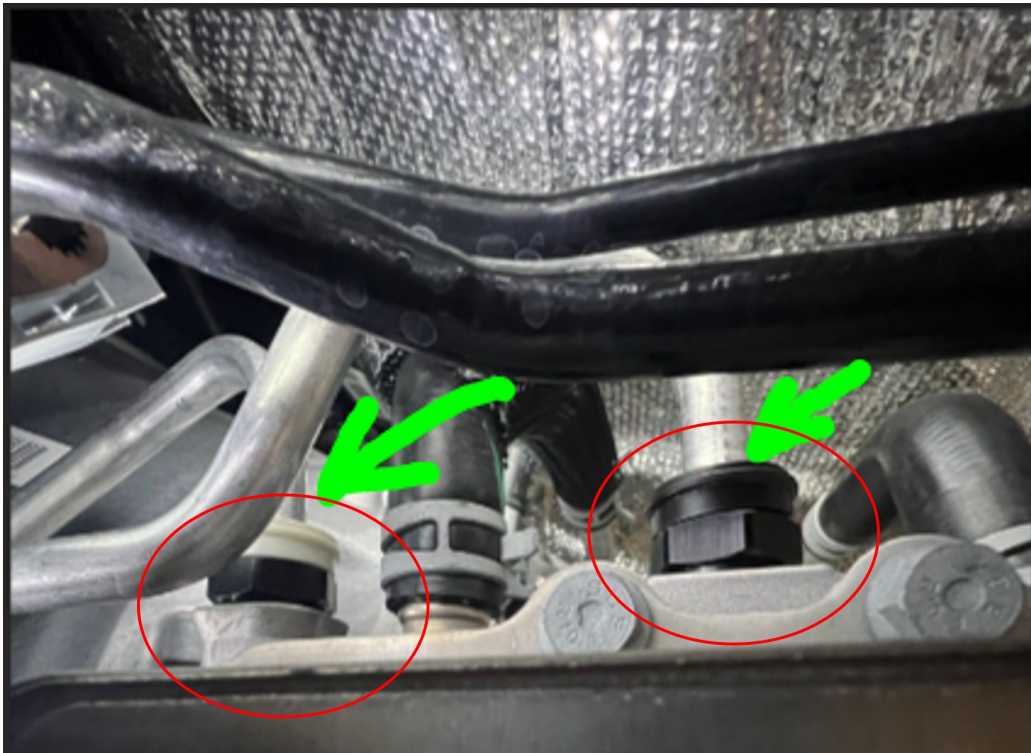

Fig. 1
- YES >>> This bulletin has been completed, use inspect LOP (21-25-10-98) to close the active RSU (Fig. 1).
1. Fully seat the transmission oil cooler lines into the oil cooler and ensure the caps are fully seated into position (Fig. 1) .